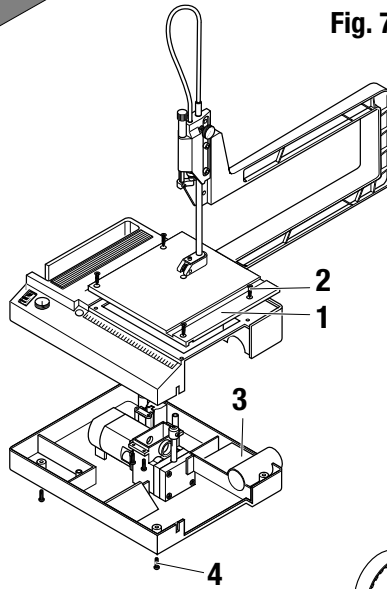

Fig. 8
3. Unscrew screws **2** (Fig. 8) in the base plate **1**.